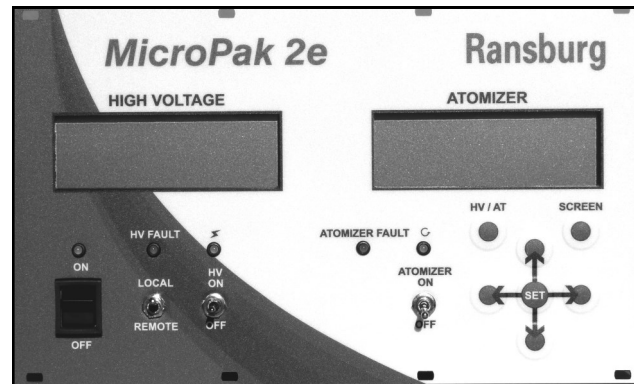

Figure 4: Operator Interface
The MicroPak 2e Controller shown in figure 4, has a physically simple operator interface consisting of five (5) LED's (Light Emitting Diodes), four (4) switches, seven (7) buttons, and two four line twenty character (4 X 20) alpha/numeric displays.
This is a return-to-center momentary toggle switch. It is active only when the Local/Remote mode switch is set to Local. It is used to enable and disable the High Voltage output and to clear system faults. When the System Checks and Current Status are OK, flipping the switch to the up position (HV On) will enable High Voltage Output (see "Figure 4 - Operator Interface" in this section). Flipping it to the down position (HV Off) will disable the High Voltage Output. If there is a system fault,
The red HV Fault LED is lit when the system detects a fault condition (see "Figure 4 - Operator Interface" in the SWITCHES section). When operating in "Local Mode", it is cleared by flipping the HV On/Off switch to the OFF (Reset) position. If the system is still in a fault condition, it will immediately be lit as the system detects the fault.